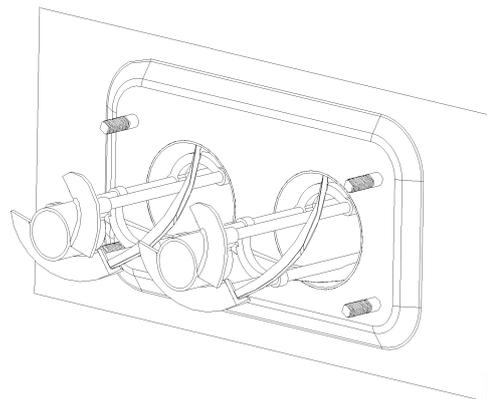

Figure 5-2
3. Slide the beater assembly into the cylinder. Make sure the square end is put into the hole of axis guide of reducer. Turn the beater slightly to be certain that the beater is properly seated. When in position, the beater will not protrude beyond the front of the freezing cylinder. Figure 5-2